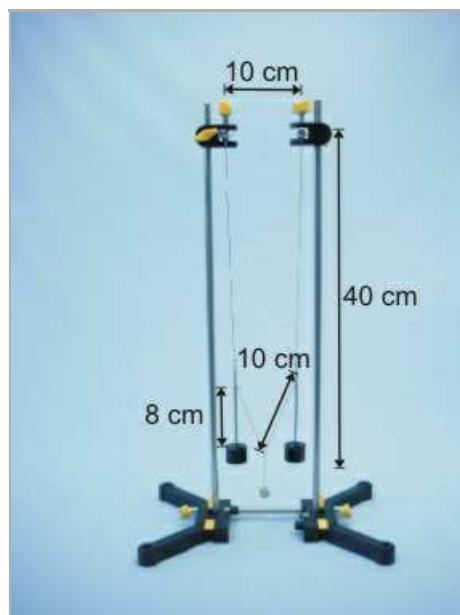

Fig. 5
- Couple the two pendulums with the latter piece of fish line by tying its ends to the upper ends of the weight holders (Fig. 5).